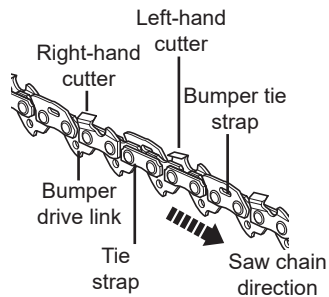

Fig. 39
1. Have the saw chain (17) sharpened professionally at an authorised service centre or sharpen the chain yourself by using a proper sharpening kit. Also observe the sharpening instructions supplied with the sharpening kit.
2. The height difference between the tooth and the ridge is the cutting depth. When sharpening the saw chain (17) you have to consider the following points (Fig. 39).